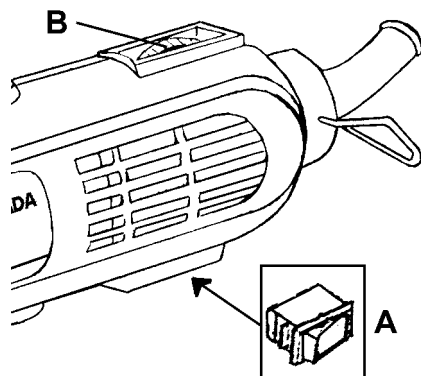

Figure 5
Hold the rotary tool in your hand and plug the power cord into the wall outlet. Switch on the rotary tool by pressing the ON/OFF switch (A) Fig.5. Then a speed setting must be selected using the variable speed thumb dial (B). The accessory and job to do will determine the speed setting to use.